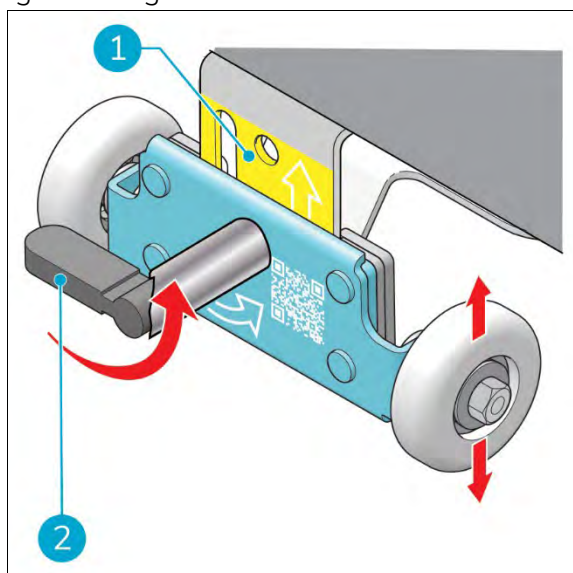

Figure 24
2. Turn the lever (Figure 24, pos. 2) 180° following the arrow .
3. Pull the lifter kit down. The yellow part shows (Figure 24, pos. 1).